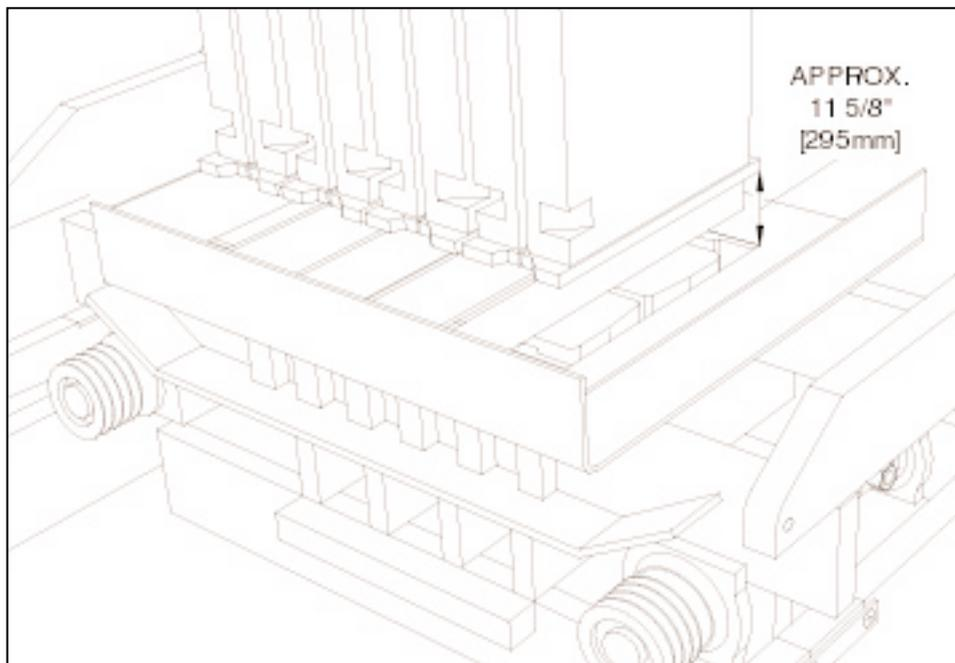

Figure 5.27 SHOES 4" [102MM] ABOVE MOLD.
5.6.6 Measure from bottom of shoe to top of mold end liners (see figure 5.27). Add dimension "C" to this measurement (dimension "C" is the amount of compression. For detailed explanations, see section 5.8)